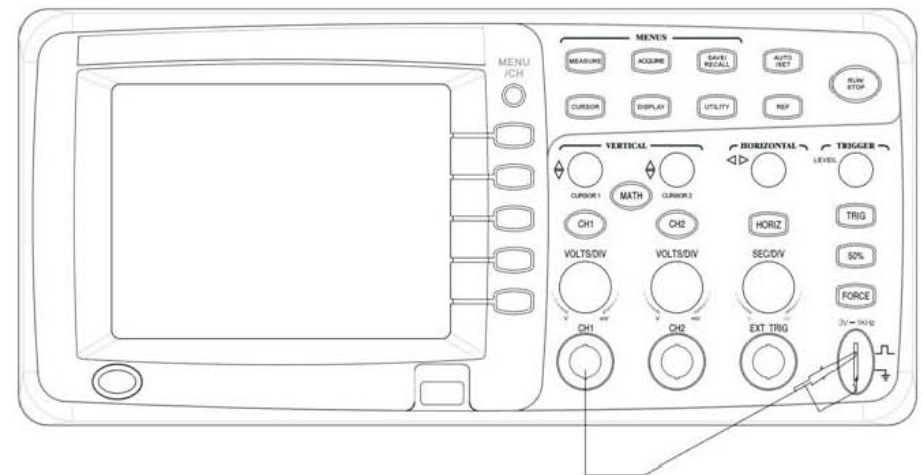

Figure 1-5 Probes Compensated
2. Set the switch to 10× on the probe and connect the probe to channel 1 on the oscilloscope. To do this, align the slot in the probe connector with the key on CH 1 BNC, push to connect, and twist to the right to lock the probe in place, as shown in Figure 1-5.